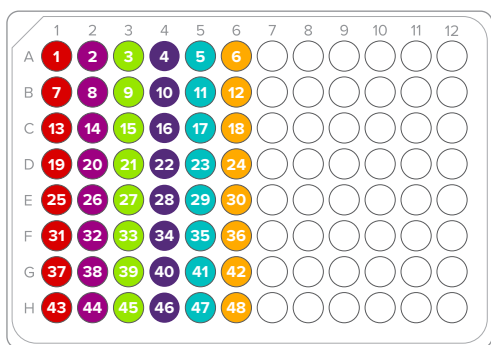

Figure 2. Layout of 20X assay pools and sample mixes
- In a DNA-free hood, combine the following components in wells of a new PCR plate or in 8-well strips according to the layout shown (see Figure 2):
- In a DNA sample hood, pipet the following components into each well of the new 96-well plate according to the layout shown in Figure 2). Use an 8-channel pipette to transfer the sample pre-mix from the 8-well strip.